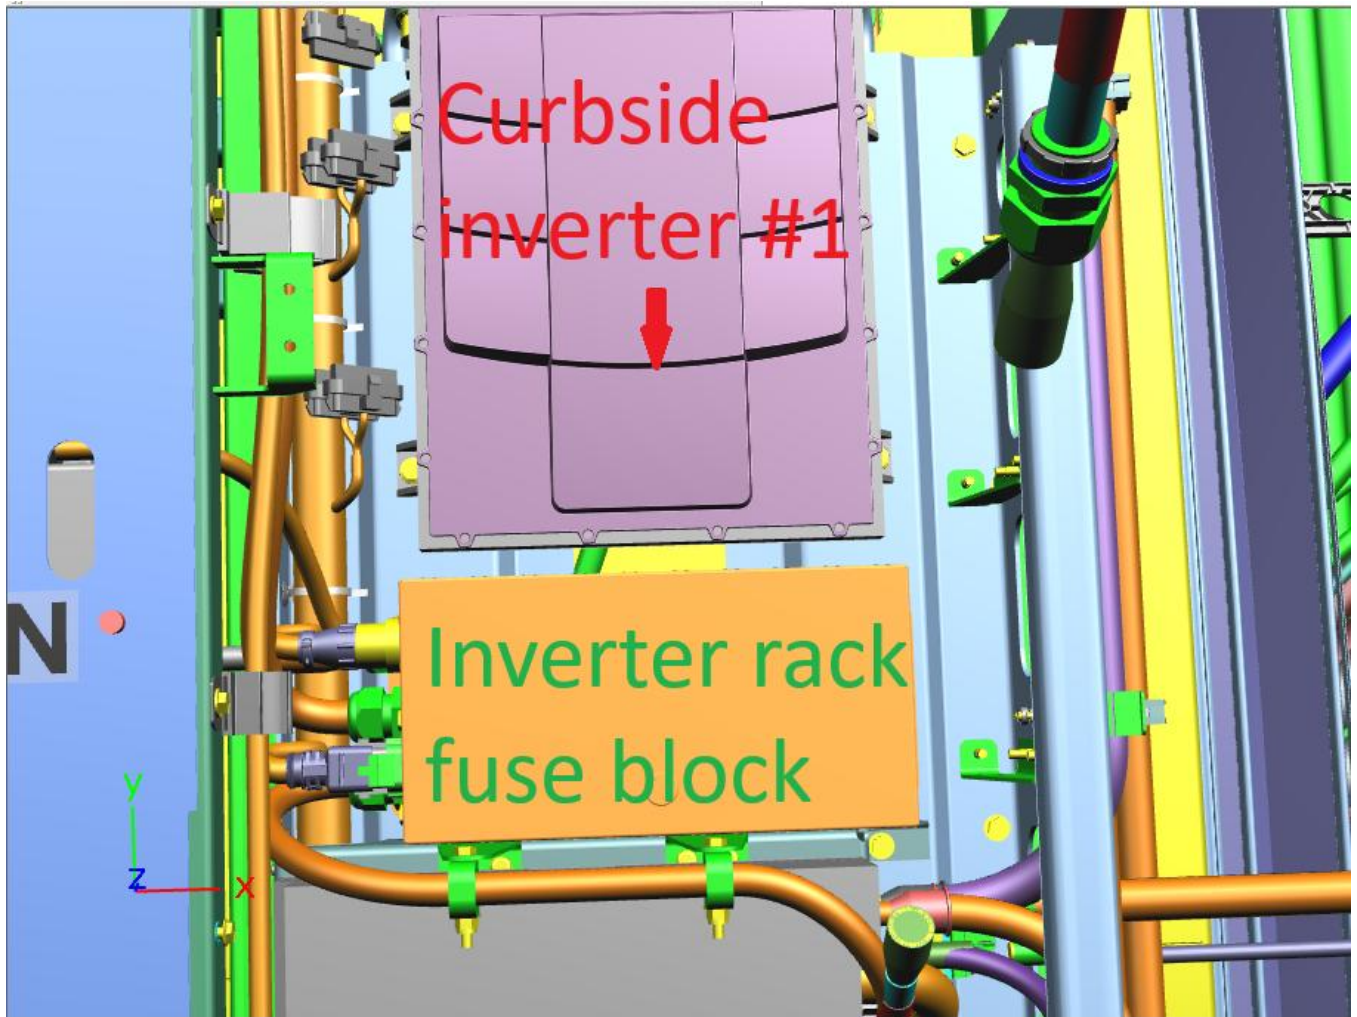

Figure 2: Centre axle fuse block box
18. Open the centre axle inverter rack and locate the fuse block between the 2 centre axle inverters, see figure 2.